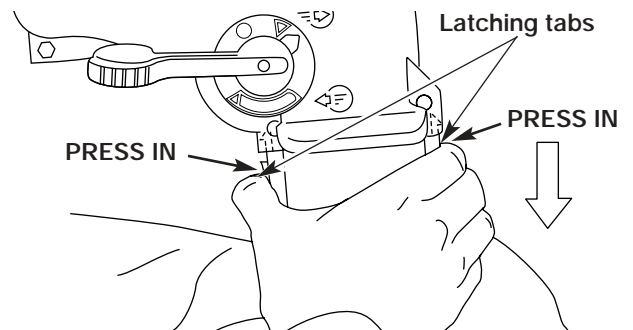

Fig. 21
1. While pressing the latching tabs on both sides of the vacuum bag tube, pull the vacuum bag down off the unit (Fig. 21).